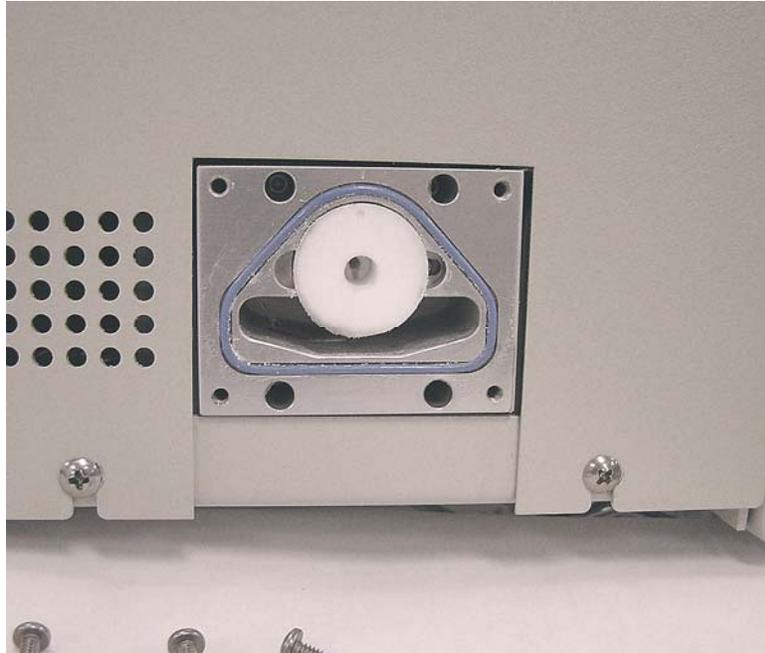

Figure 8-10
- 7.** To install a wick back into the saturator, insert the wick into the saturator block, orienting it as shown in Figure 8-10 with the metal orientation pin at the side of the wick positioned in the notch to the right.